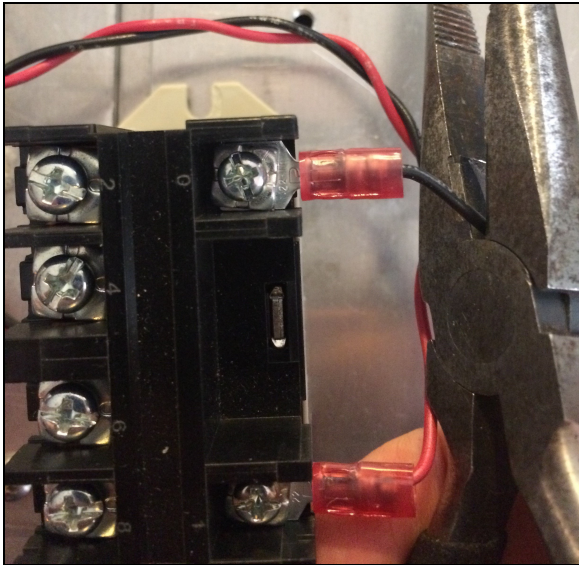

Figure 2
- Cut control wire directly at relay (NOT NEAR CONNECTOR). See Figure 2.